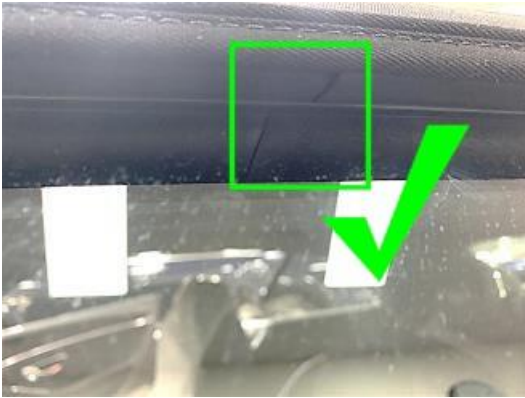

Figure 8
5) Referring to Figure 8 - After adjustment the profile should be as shown